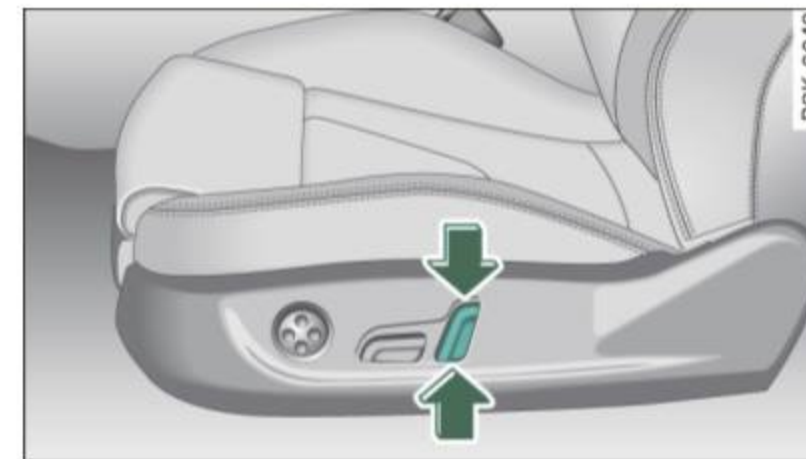

Fig. 82 Front seat: Adjusting head restraint electrically*
- Push the switch up or down ⇒ *page 85*, fig. 82 to adjust the height of the head restraint.